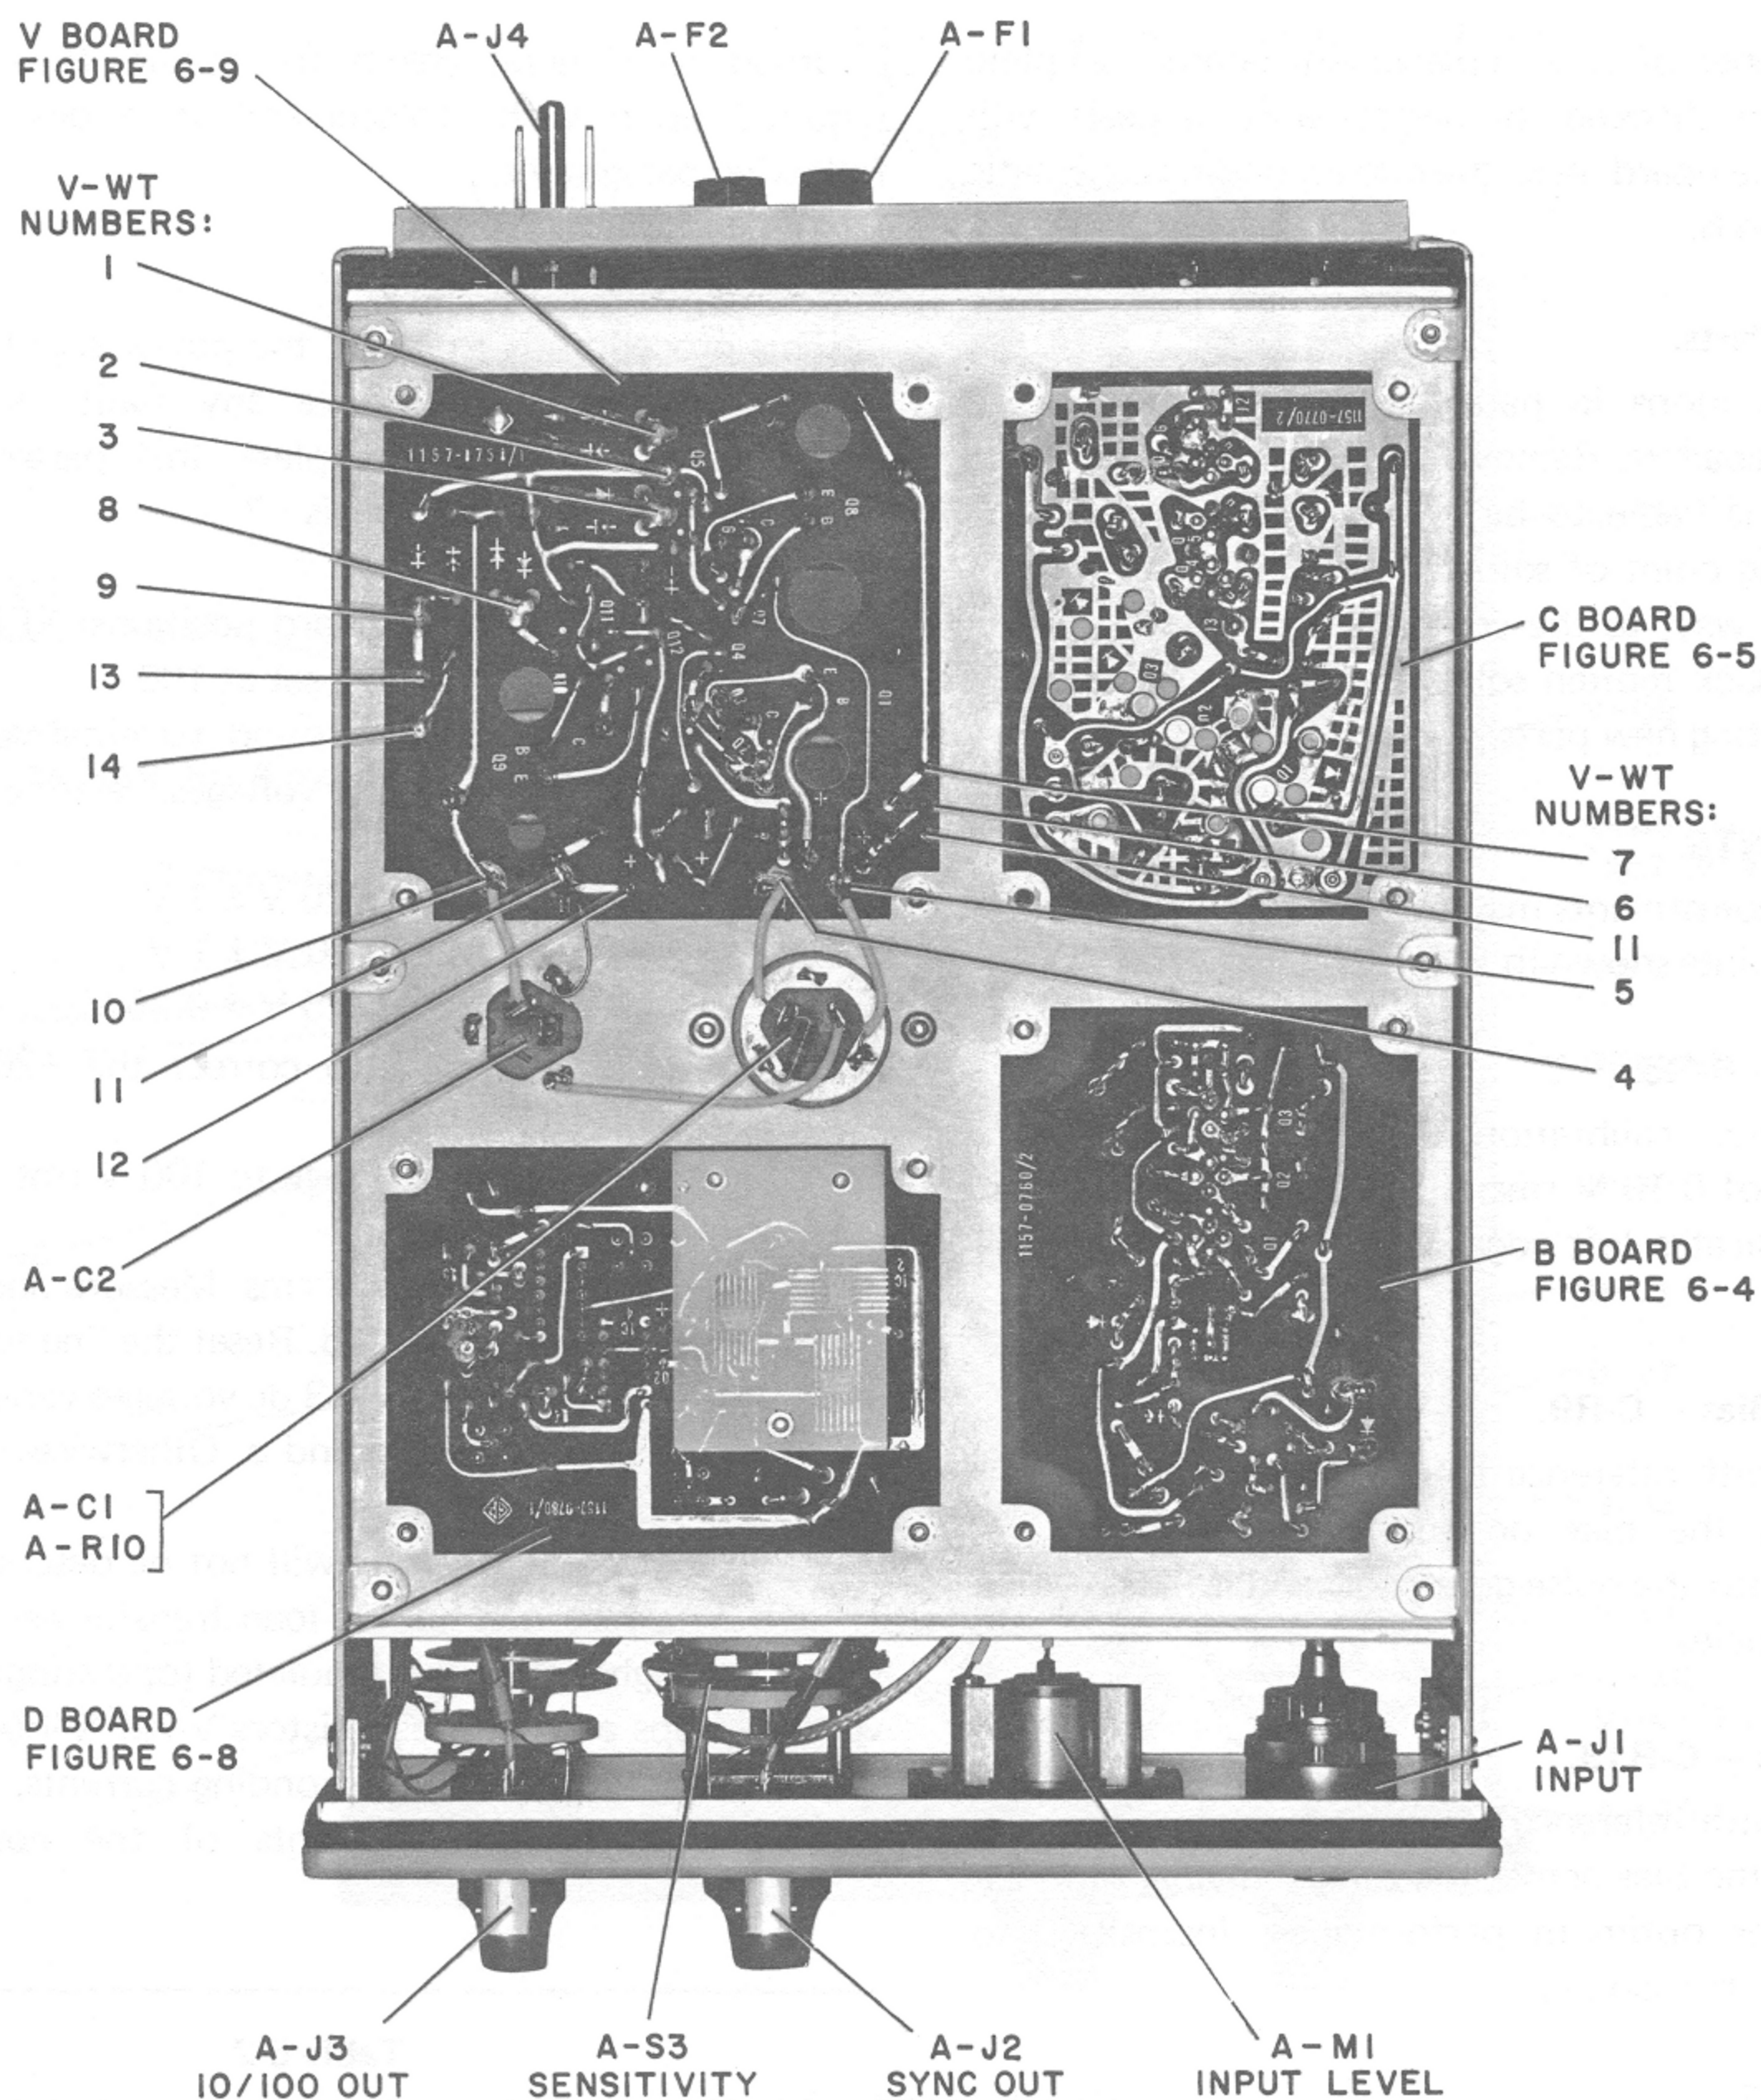

Figure 5-3. Interior bottom view.
- With the voltmeter ground terminal connected to WT2, verify the following dc voltages; refer to Figures 5-3 and 6-10: